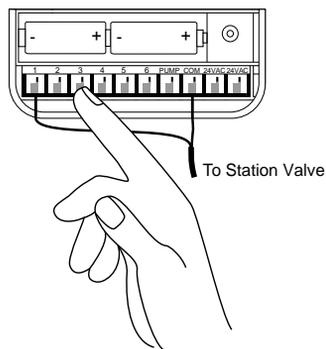

FIGURE 24: Connecting Valve Wires
- It may be necessary to open the terminal to allow for wire insertion or removal. To do this, simply press upward on the tab located on top of the terminal [See Figure 24].
- Connect the common wire to the terminal labeled **COM** [See Figure 24].